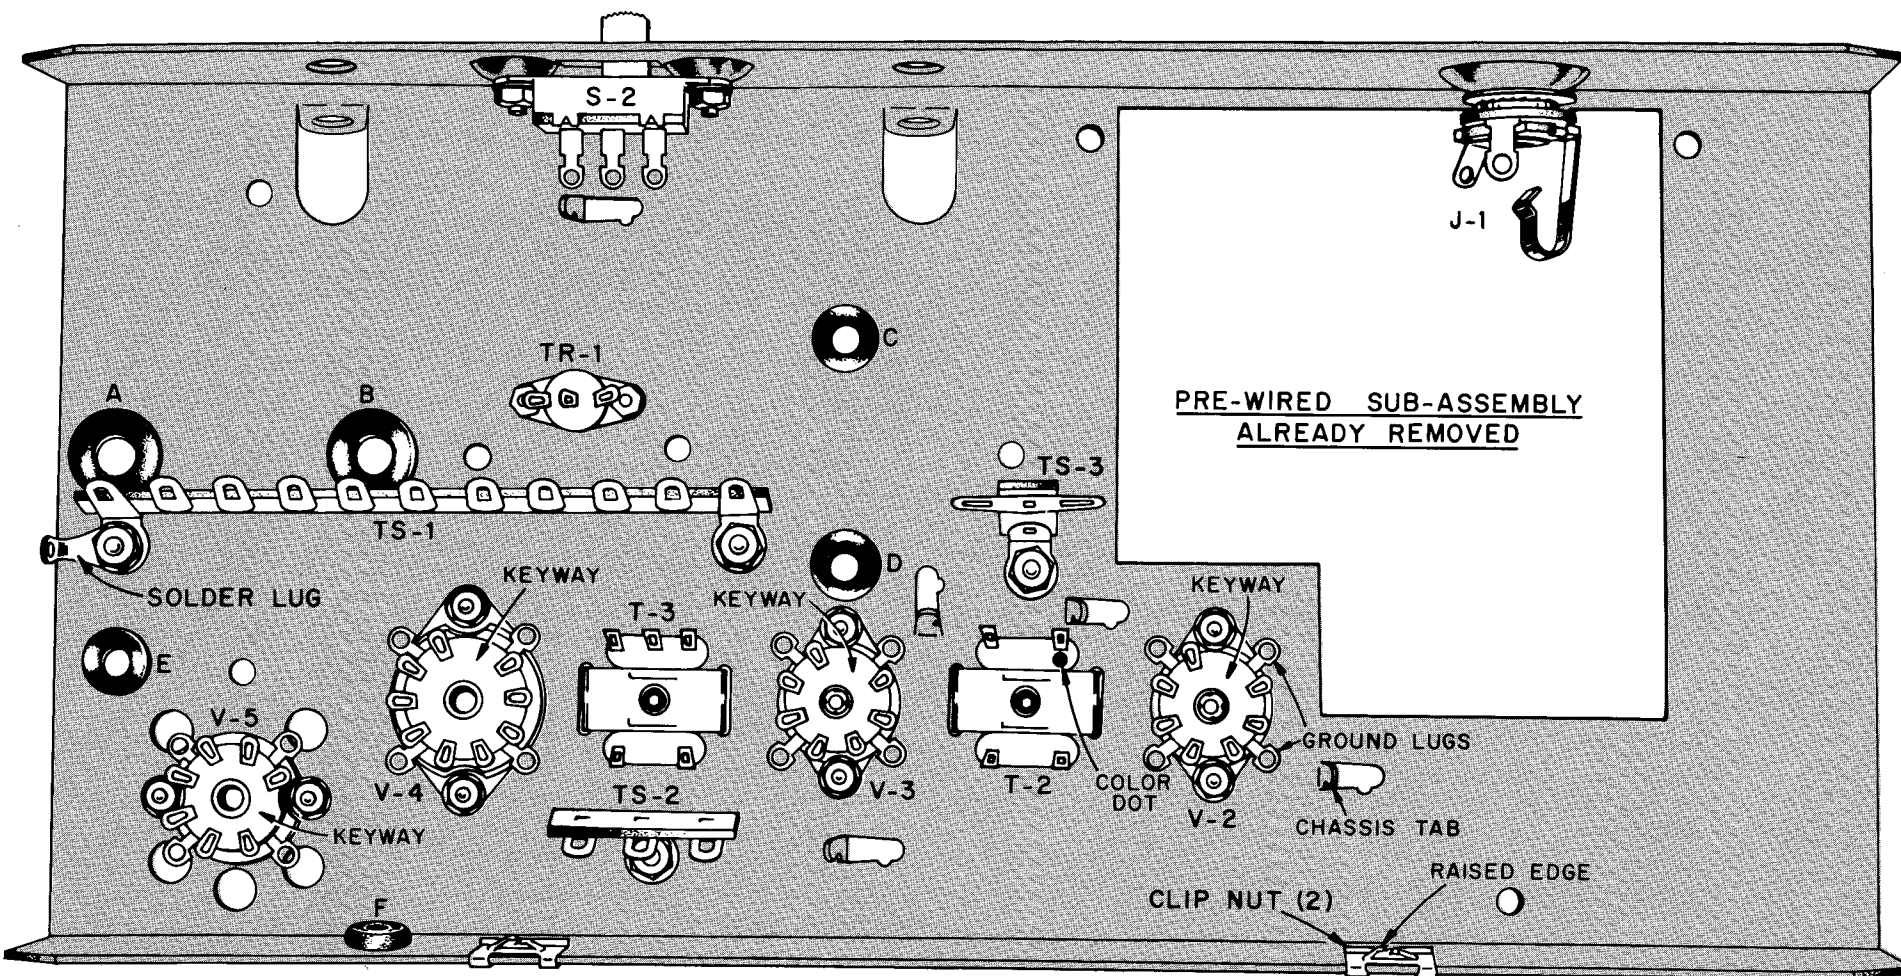

FIGURE 1. FIRST PARTS MOUNTING ON THE BOTTOM OF THE CHASSIS
SEE FIGURE 1.
- ☐ Place the chassis in front of you as shown in Figure 1.